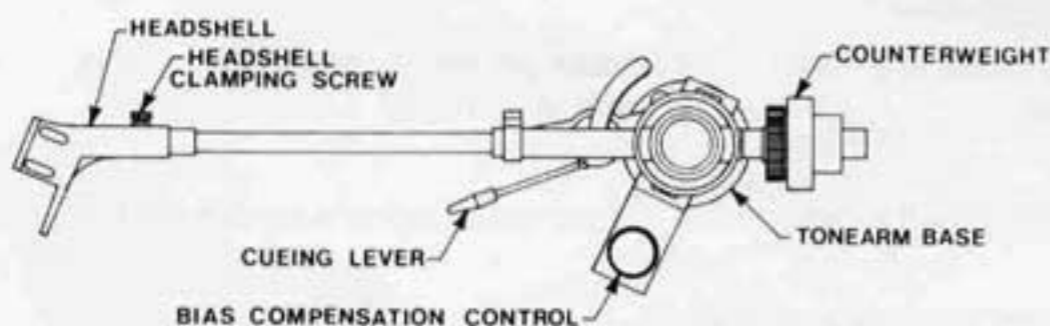
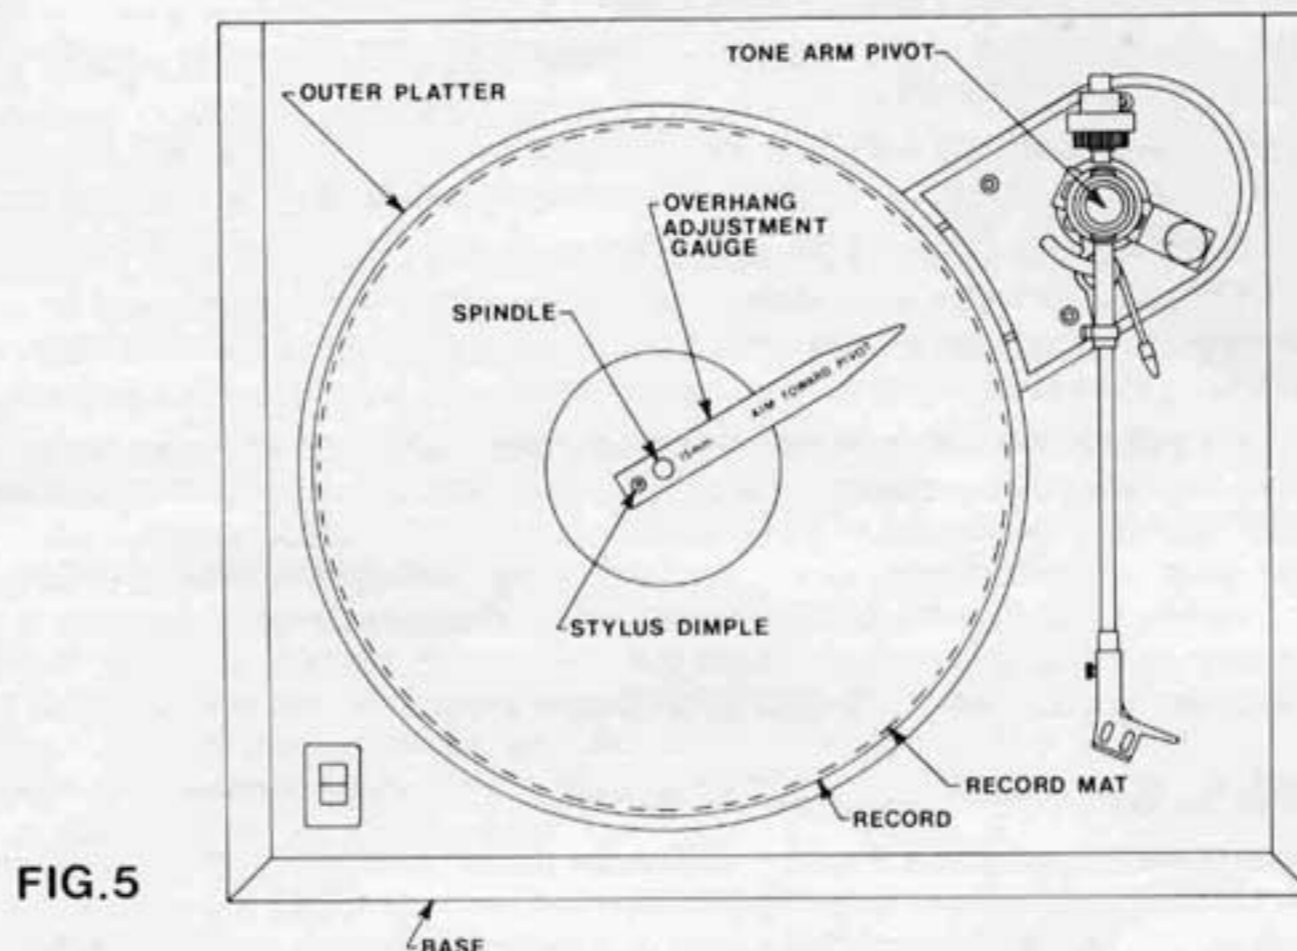

FIG. 3
FIG. 5
- (1) Mount the cartridge of your choice in the headshell. Follow the manufacturer's instructions in doing this and use either hardware supplied with the cartridge or that supplied with this turntable. The wiring in the headshell is color coded as follows: Right channel: red +, green -. Left channel: white +, blue -.
- (2) Now mount the headshell in the tonearm. First loosen the headshell clamping screw on the arm (see fig 3), push the headshell plug firmly home into the end of the tonearm, and then re-tighten the clamping screw.
- (3) Mount the counterweight onto the rear of the tonearm. This is achieved by holding the weight by the large diameter and pushing it onto the rear of the tonearm (with the white numbers to the front) whilst rotating it in an anti-clockwise direction when viewed from the front.
- (4) Set the tracking force to about 1 gram. To do this, the arm first must be set to zero tracking force. Set the bias compensation control (fig 3) to zero, release the arm from the arm-rest, and then rotate the large-diameter counterweight until the arm floats freely in a horizontal position. The arm is now balanced to zero. Without moving the counterweight itself, now rotate the knurled calibrated dial relative to the counterweight until "0" is next to the white line on the tonearm. Now rotate the whole counterweight together with the calibrated dial in an anti-clockwise direction using the large diameter again until "1" is against the white line. The tracking force is now set to 1 gram.
- (6) Set the stylus overhang to 15mm. The clear plastic overhang gauge provided in the accessories is used for this step. Place the hole in the gauge over the turntable spindle and aim the pointed end of the gauge towards the pivot of the tonearm (fig 5). Loosen the screws holding the cartridge in the headshell and adjust the position of the cartridge backwards or forwards until the stylus point sits in the dimple in the raised portion of the gauge. CAUTION — CARE MUST BE TAKEN NOT TO DAMAGE THE STYLUS ASSEMBLY IN THIS STEP. When the stylus is in this position with the cartridge body parallel to the straight edge of the headshell, tighten the cartridge retaining screws firmly and re-check that the cartridge position did not move in doing this.
- (7) Rebalance the arm to zero and set the tracking force recommended by the cartridge manufacturer using the steps outlined in section (4).
- (8) Set the bias compensation force (fig 3). The dial should be turned to the tracking force set in section (7).
- (1) Connection. Your AR Turntable is connected to your amplifier or receiver using the phono cables attached to it (if complete with the AR Tonearm) or those that came with the arm of your choice. Units purchased with the AR Tonearm also have a single wire attached to the phono cables which may be attached to the grounding screw on your receiver or amplifier. This will normally ensure that no problems with hum are experienced.
- (2) Hinged dust-cover. The dust-cover supplied with your turntable fits directly into the two hinges on the rear of the unit. It is a friction fit and is merely slid into place. It should be positioned such that the long slanting edge is to the front of the unit.
- (3) Playing a record. To turn on your AR Turntable, the on/off switch is located at the front left of the base. If your unit was supplied with the AR Tonearm, then this may be lowered onto the record by using the damped lowering mechanism, the control for which is the straight lever to the right front of the tonearm bearing (see fig 3).
- (4) Speed change. Your AR Turntable will play at either $33\frac{1}{3}$ RPM or at 45 RPM. Speed change is effected by switching off the unit, removing the outer platter and then moving the belt to the correct diameter on the drive pulley. The small diameter is $33\frac{1}{3}$ RPM, the large diameter is 45 RPM.